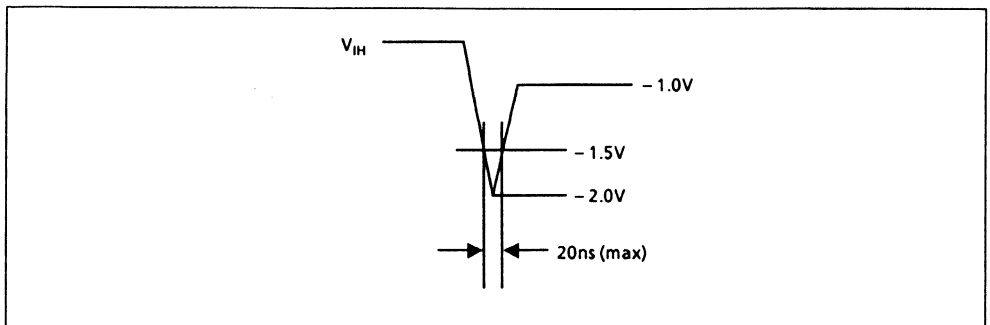

Figure 1 Undershoot of input voltage
- The device will withstand undershoots to the -2 V level with a maximum pulse width of 20 ns at the -1.5 V level. (See figure 1.)